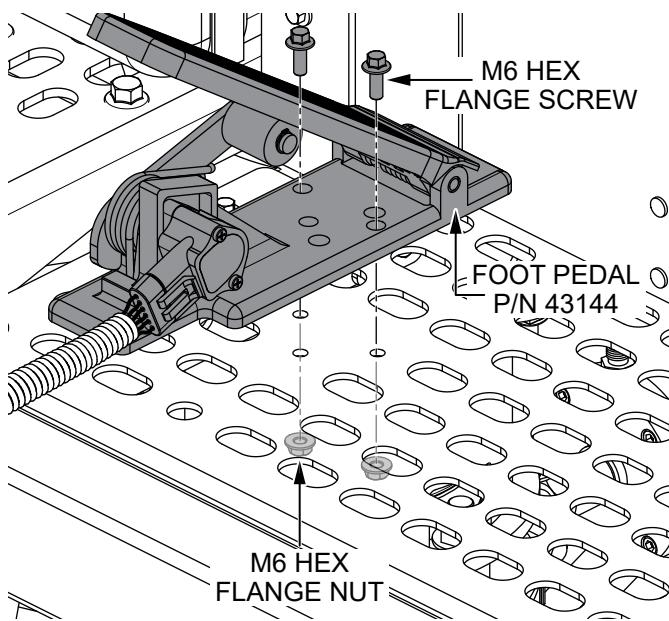

Figure 9. Install Foot Pedal
3. Use two M6 hex flange screws and two M6 hex flange nuts that were removed earlier to secure the foot pedal (P/N 43144) to the front platform. See Figure 9.